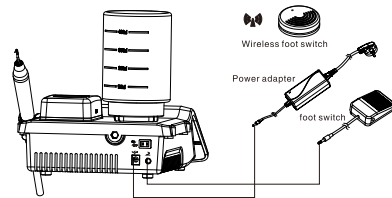
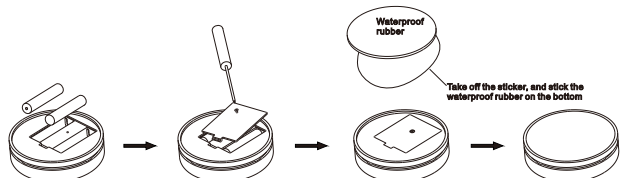

Figure 3
Figure 7
- Install the battery of wireless control foot switch, or insert the plug of the cord foot switch to the main unit.(Figure 7, Figure 3)